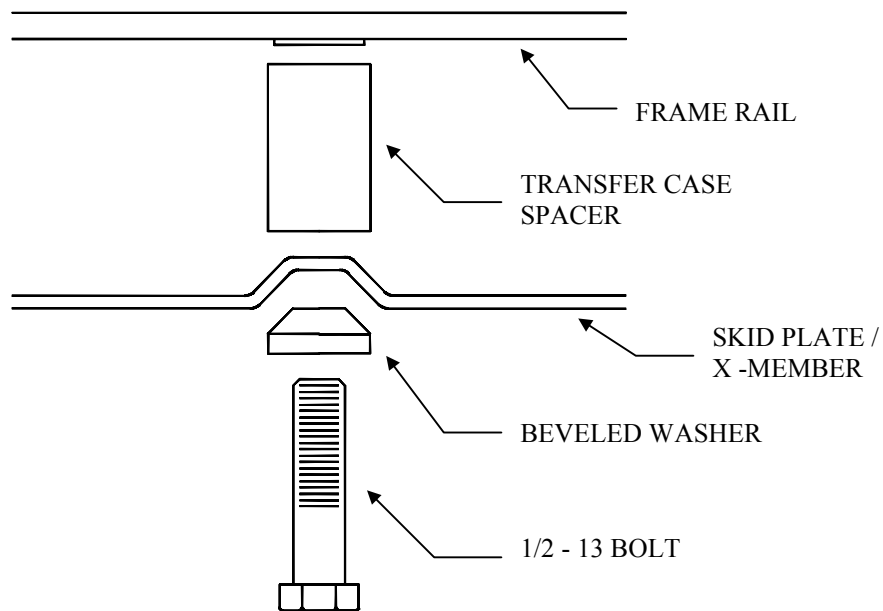

Figure 5.
12. Support the pan / cross member and remove the 6 fasteners securing it to the frame. Lower the cross member enough to insert the (6) steel concave spacers between the frame and cross member and secure with (6) 1/2-13X3" bolts, 1/2" lock washers and beveled spacers as shown in **Figure 5**. Torque to 70 ft·lbs.